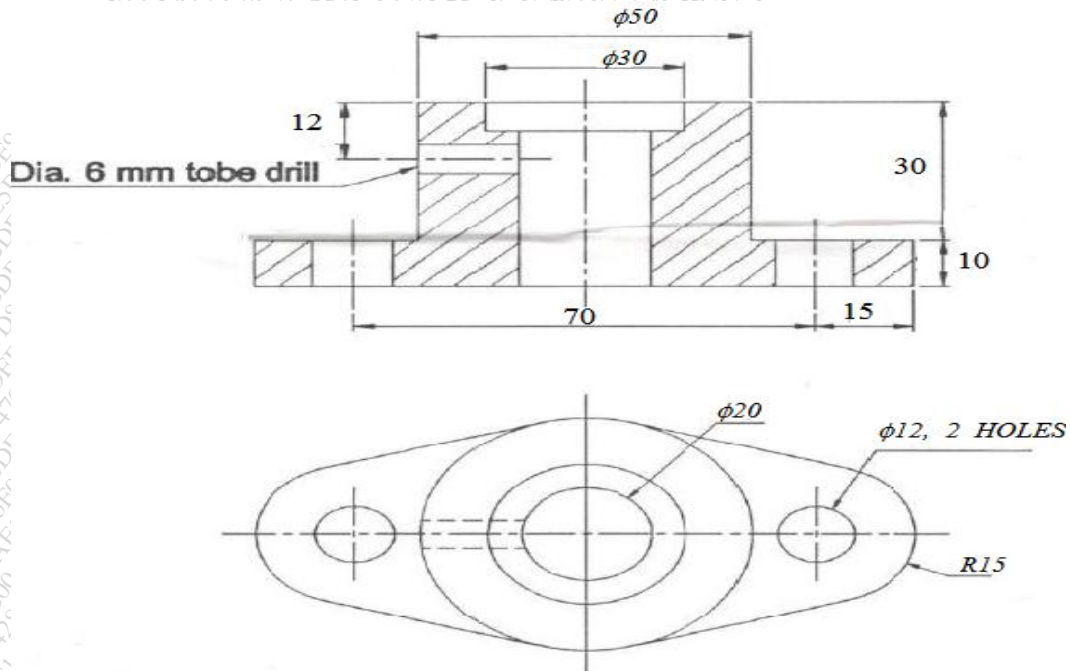

Fig.1
- Q.4 Design draw and dimension a drill jig for drilling hole of  $\phi 6$  in the finished component as Shown in fig.1 14